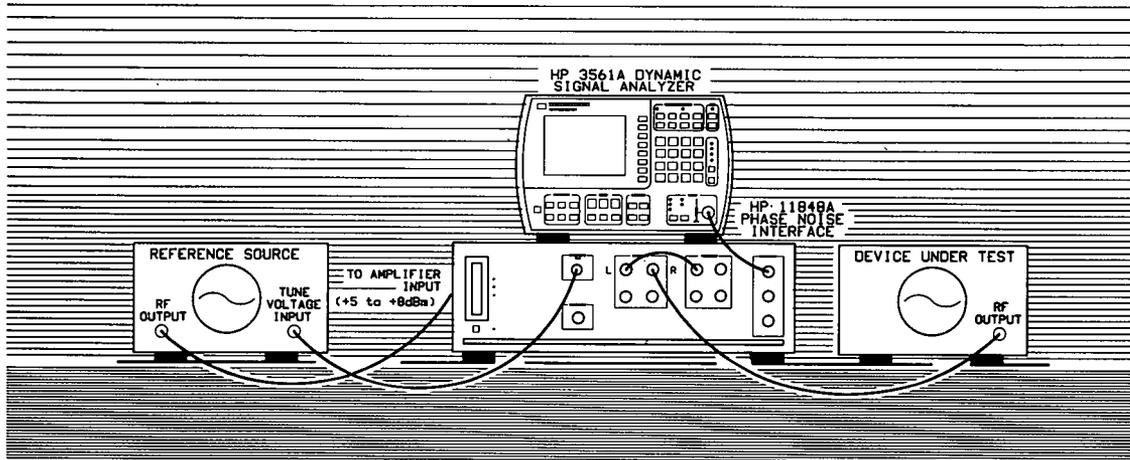

Figure 3-6. Setup Diagram for the Stable RF Oscillator Measurement Example.
3. **When the Connect Diagram appears on the HP 3048A's display, connect the signal paths as shown in Figure 3-6.** (Figure 3-6 differs from the Connect Diagram shown on the HP 3048A's display.) Table 3-4 provides setup considerations that will help you ensure that your measurement results will be valid.